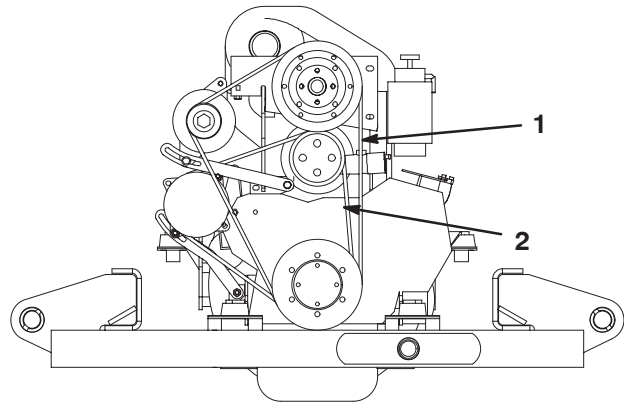

Figure 6
20. Install the new engine and fan belts, routing as shown in figure 6.